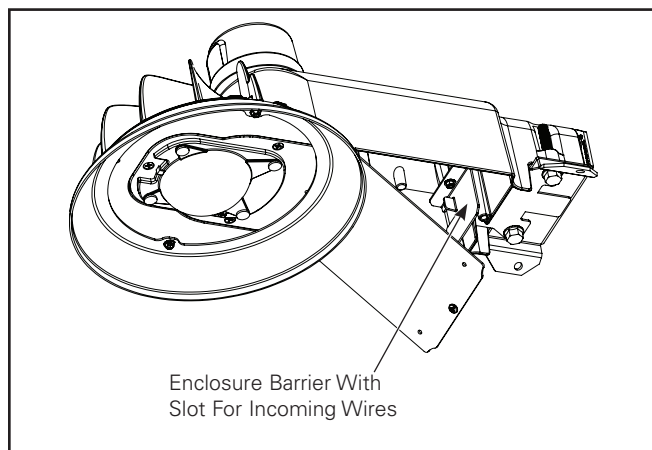

**Figure 6.**
3. With supply wires pulled through mounting pipe 6" to 8", tighten the two fixture mounting bolts using 1/2" socket. Tighten to 6-8 ft-lbs. (Figure 6.)